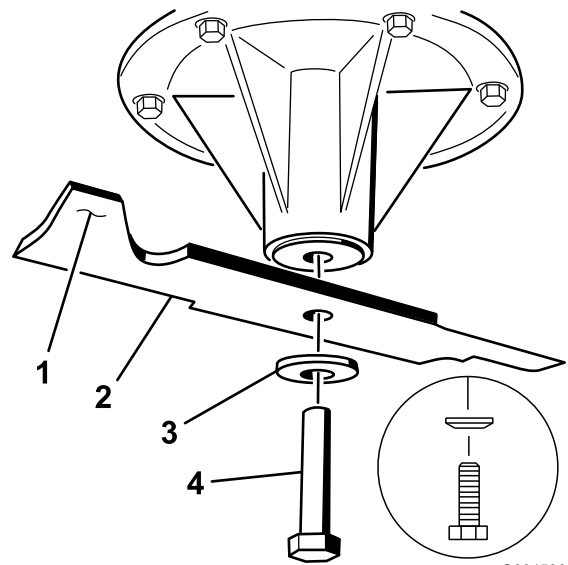

Figure 103
1. Install the blade onto the spindle shaft (Figure 103).
2. Install the spring disk and blade bolt (Figure 103).
Note: Install the spring-disk cone toward the bolt head (Figure 103).